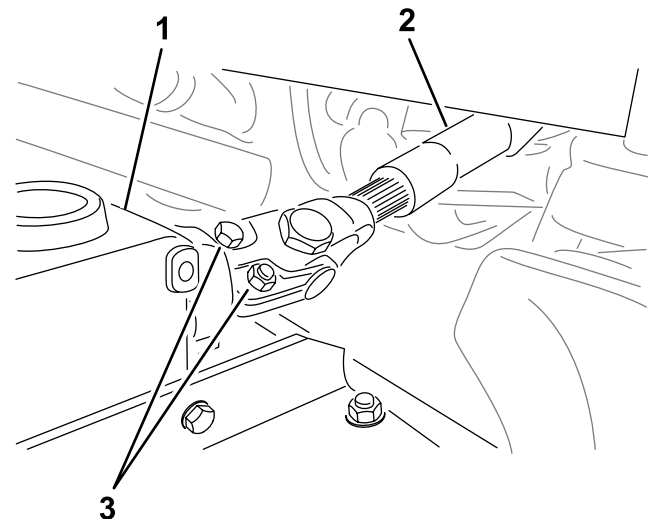

Figure 3
3. Slide the PTO-shaft yoke onto the gearbox shaft and secure the shafts together with 2 bolts and nuts in opposite directions (Figure 3).
4. Tighten the bolts and nuts (Figure 3).